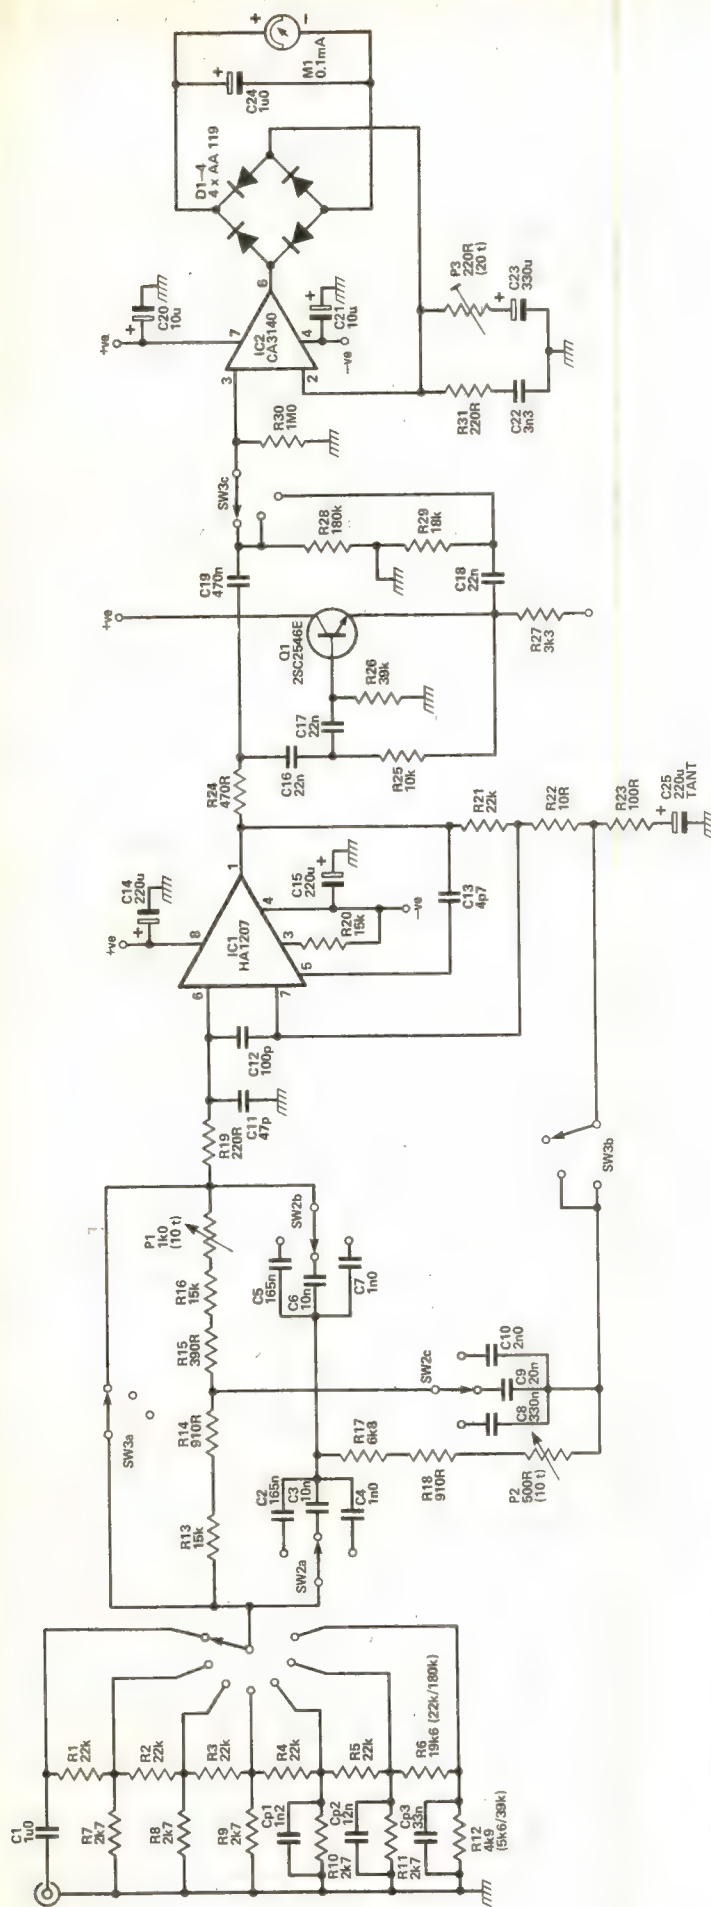

Figure 6: Circuit diagram of the HD meter
Figure 6 shows the complete circuitry for the distortion meter. The description that follows brings out how the desired characteristics for the distortion meter have been implemented in this design.
3) The measured input impedance of the HA12017 in the circuit shown in *Fig.6* was greater than 600kohms at 1Hz. This will not cause any significant loading on the parallel T-filter.